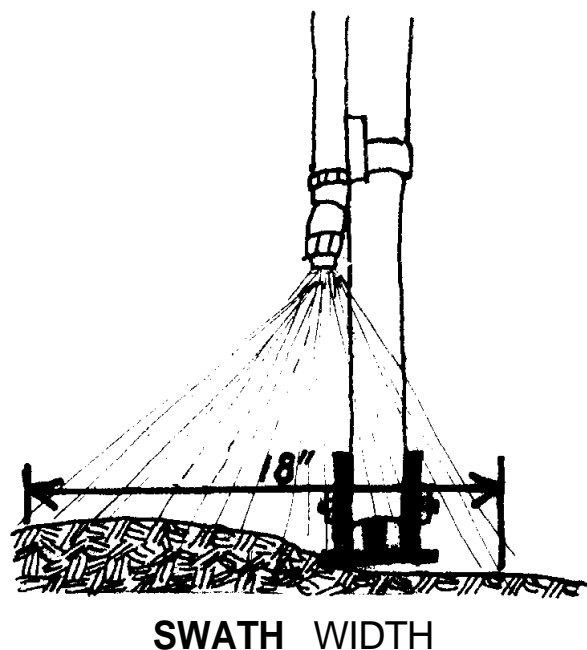

Figure 3. Measure the swath width sprayed by one nozzle to determine the course length required to equal 1/128 acre.
- Step 1. Measure the swath width sprayed by one nozzle in inches (Figure 3). This width will vary with nozzle height and orientation therefore measurements should be made after these adjustments are made in the field to be sprayed.